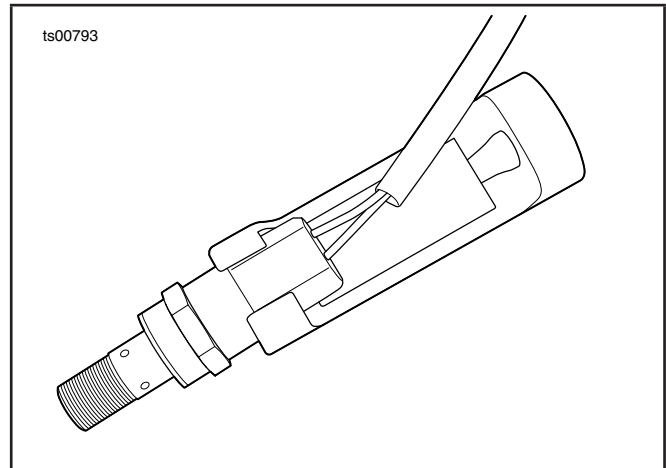

Figure 3. ACR in ACR solenoid socket.
4. See Figure 3. With ACR harness in slot in ACR Solenoid Socket (HD-48498-A), fit socket to ACR.